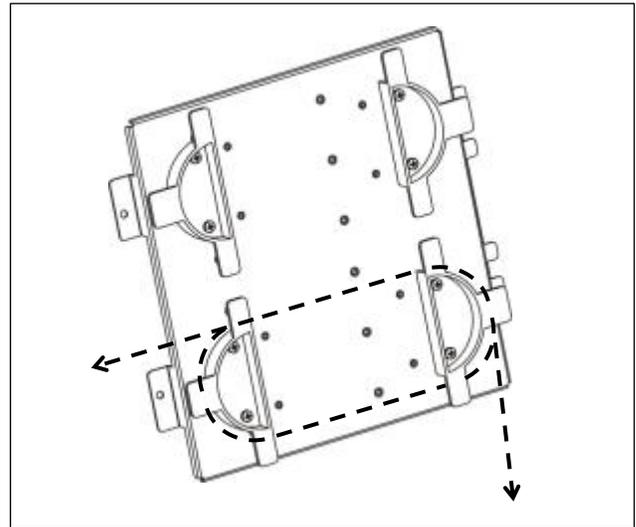

Figure 11. Cable take-up reel routing
- ① Slide the two narrower tabs at the edge of the SPL-4H into the openings on the side of the WR-10U23, toward the rear of the mounting.
- ② Align the wide tabs at the front edge of the SPL-4H with the threaded holes on the side of the WR-10U23 frame. Use the two (2) included #10-32 x 3/8" screws to securely fasten the side plate to the frame.
- ③ Carefully wrap cables around the take-up reels to reduce slack as needed. Example routing is shown in Figure 11. Alternate mounting holes are included on the side plate for repositioning the half-reels, if desired.